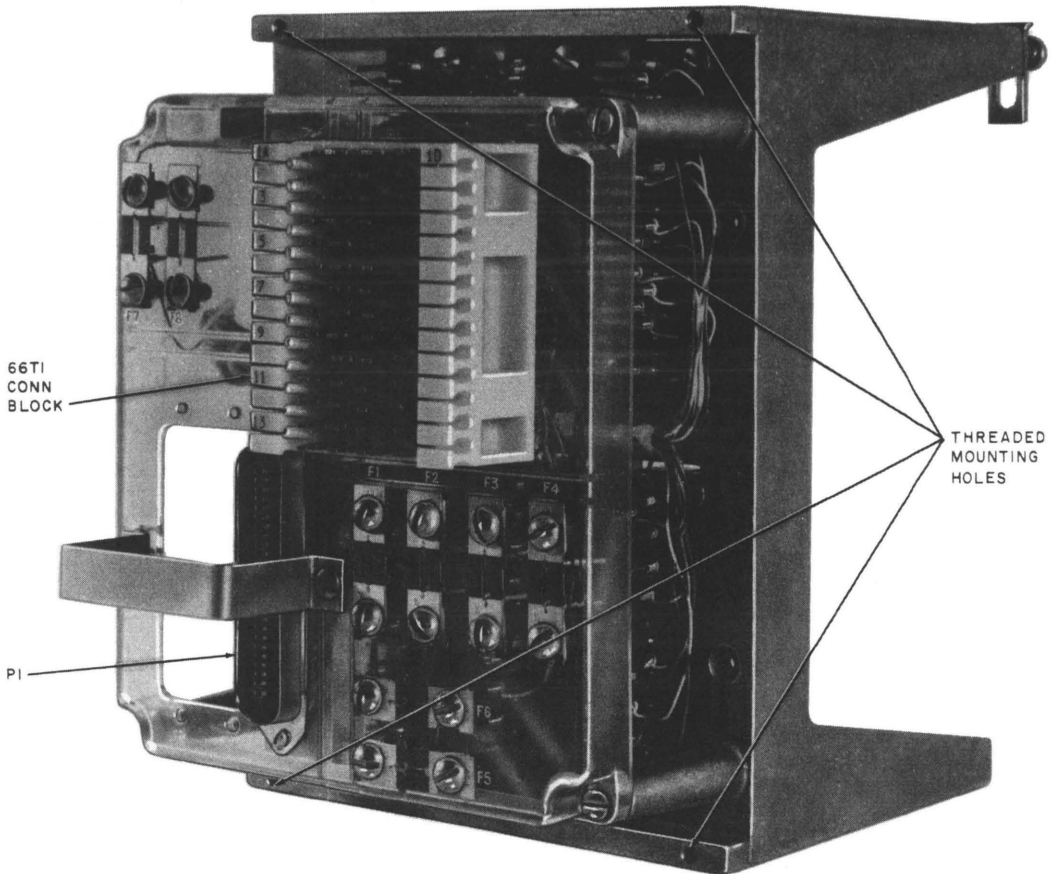

Fig. 2—615A Panel (Rear View)
**2.06** The 24E 1/2-ampere fuses attach to screw terminals on the rear of the panel as shown in Fig. 2.